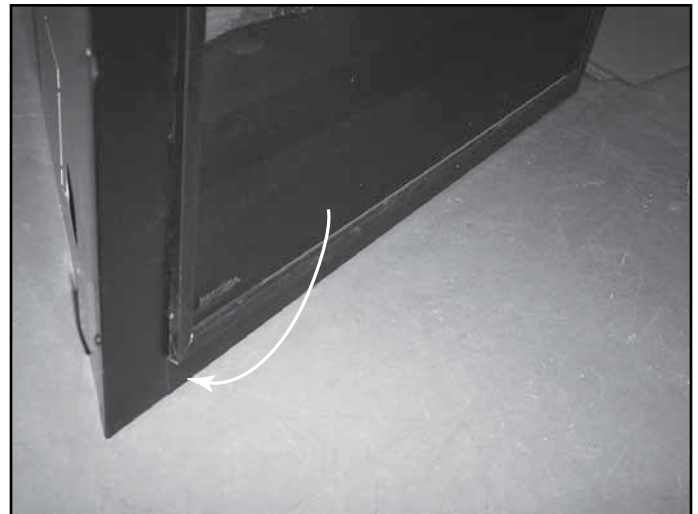

Figure 15.13 Rotate the Screen Down
- Rotate the screen in at the bottom until it touches the magnetic touch latches. See Figure 15.13.